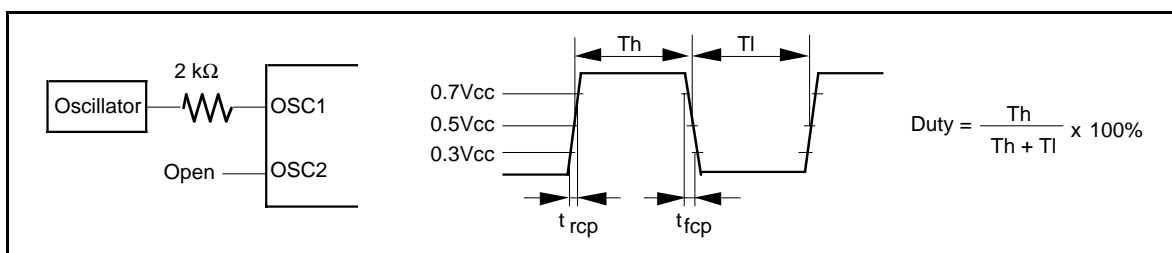

Figure 65 External Clock Supply
9. Applies to the external clock input (figure 65).